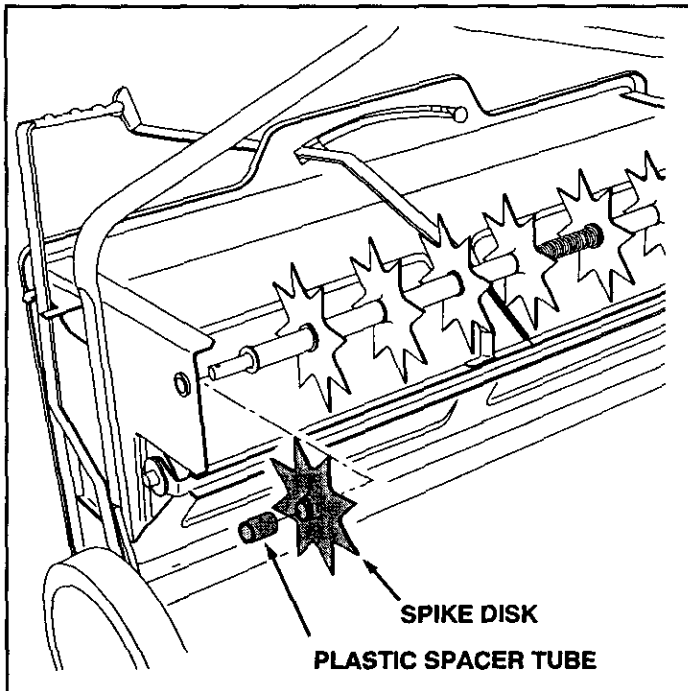

FIGURE 21
- Place a spike disk and a plastic spacer tube onto the shaft. Fit the plastic spacer tube onto the ends of the flanged bearings in the spike disk and in the end plate. Push the shaft on through the flanged bearing in the end plate. See figure 21.